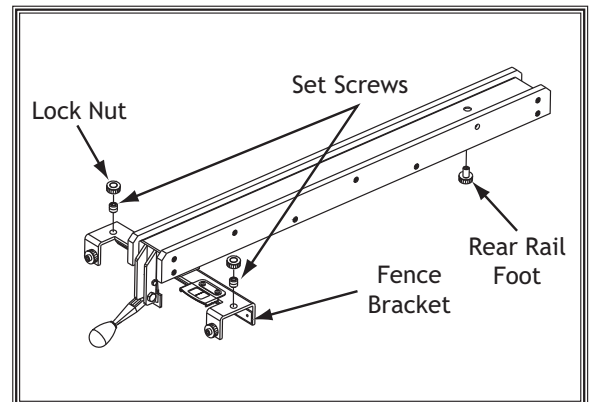

Figure 104. Fence components used to adjust fence height and squareness to table.
3. Adjust the set screws (see **Figure 104**) on top of the fence bracket to ensure the fence face is 90° to the table, then tighten the knurled lock nuts.
5. Adjust the fence height with the rear rail foot until the gap between the table and the fence is approximately 1/16" and even from the front of the table to the back. **Note:** *If the front end of the fence needs to be adjusted up or down, use the set screws from **Figure 104**; turn them in even increments and recheck the squareness afterwards.*